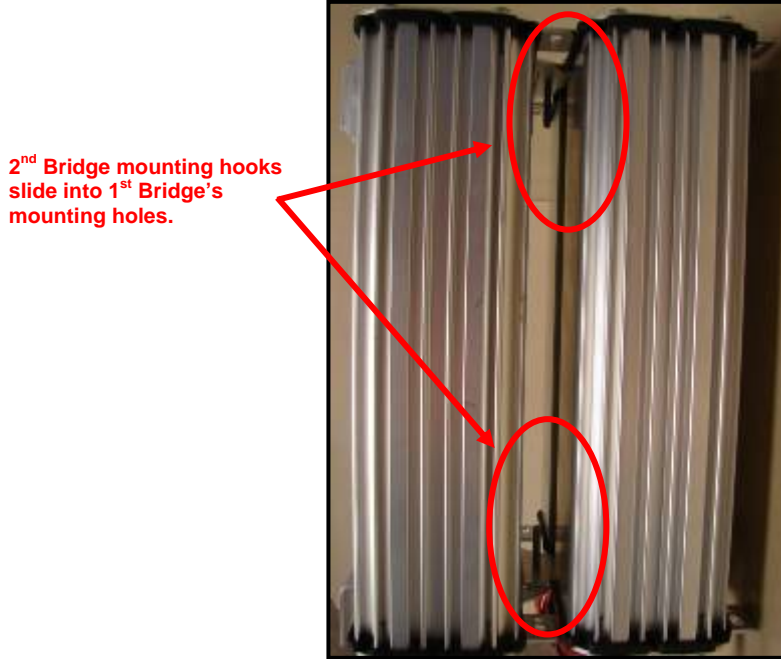

Figure 41 – Dual Bridges attached
1. Attach the Bridge (with splitter) to the other Bridge by having the mounting hooks on the Bridge (with splitter) slide into the slots on the mounting bracket of the other Bridge as shown in *Figure 41*.
1. Attach the second Bridge (with splitter) to the installed Bridge by having the mounting hooks on the Bridge (with splitter) slide into the slots on the mounting bracket of the installed Bridge as shown in *Figure 41*.